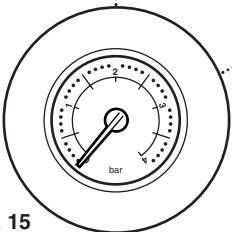

Fig. 15
4. The minimum pressure for correct operation is 0.5. If the pressure falls below 0.5, this may indicate a leak on the central heating system (Fig. 15).